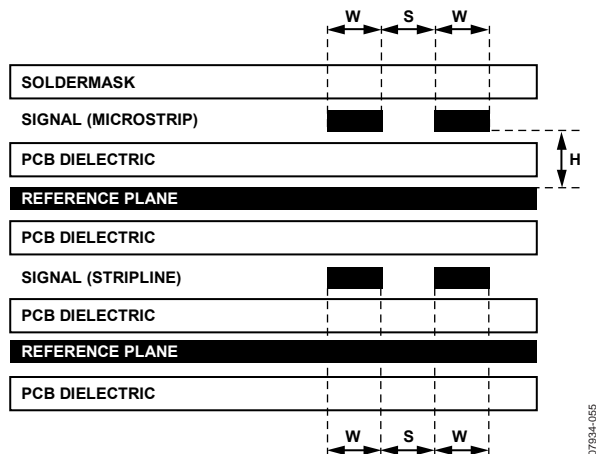

Figure 55. Example of a PCB Cross-Section
The high speed differential inputs and outputs should be routed with  $100\ \Omega$  controlled impedance differential transmission lines. The transmission lines, either microstrip or stripline, should be referenced to a solid low impedance reference plane. An example of a PCB cross-section is shown in Figure 55. The trace width (W), differential spacing (S), height above reference plane (H), and dielectric constant of the PCB material determine the characteristic impedance. Adjacent channels should be kept apart by a distance greater than  $3\ W$  to minimize crosstalk.